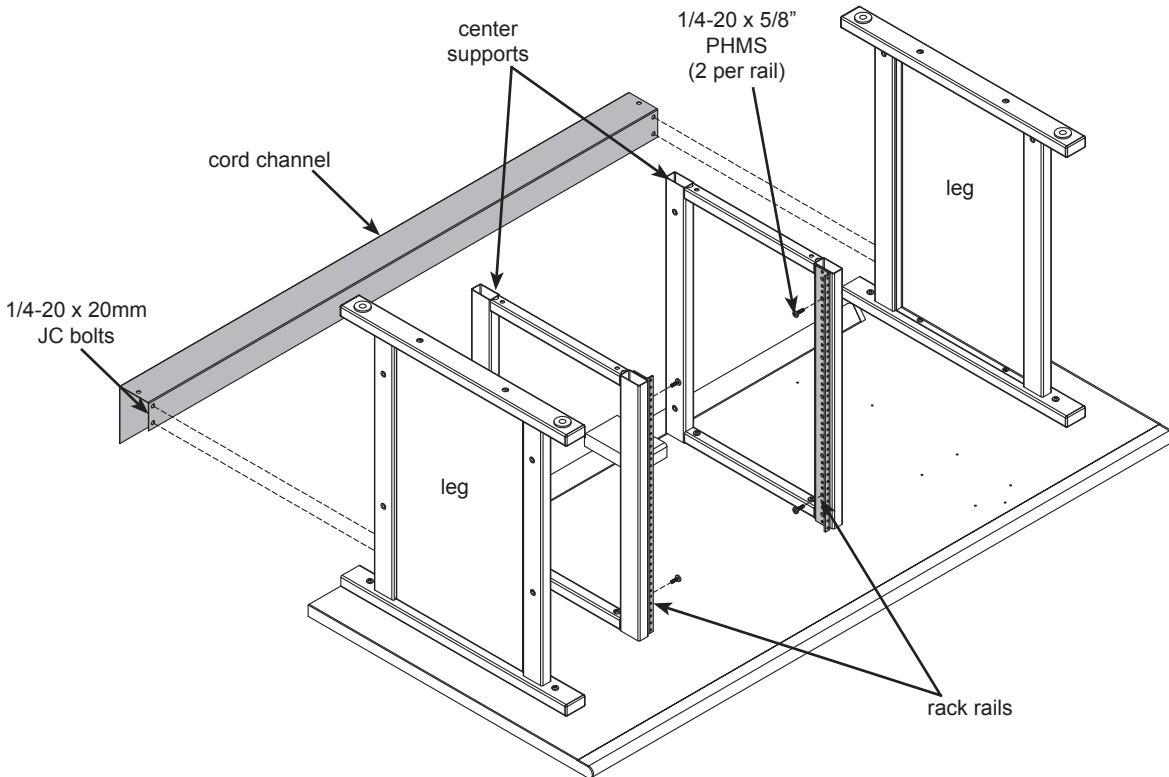

Figure 3
- A. Attach the cord channel to the legs using (4) 1/4-20 x 20mm JC bolts.
- B. Orient the rack rails in the positions shown in **Figure 3** and attach each rail to a center support with (2) 1/4-20 x 5/8" PHM screws.